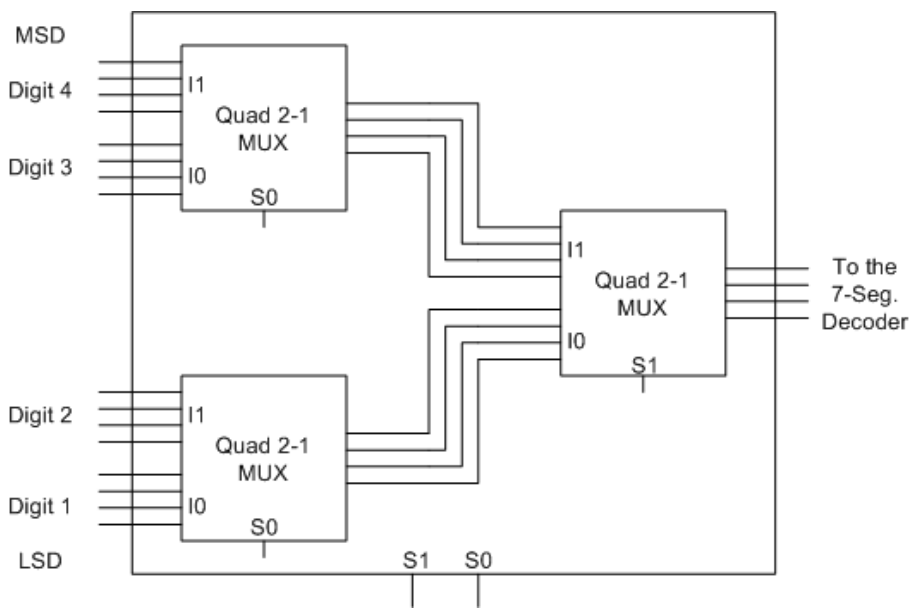

Figure 7.1: Quad 4-1 Multiplexer.
- On a new sheet design a macro for a quad four-to-one multiplexer, call it Q4-1MUX. You can utilize the quad two-to-one multiplexer available in the Spartan library (X74_157) see Figure 7.1. .